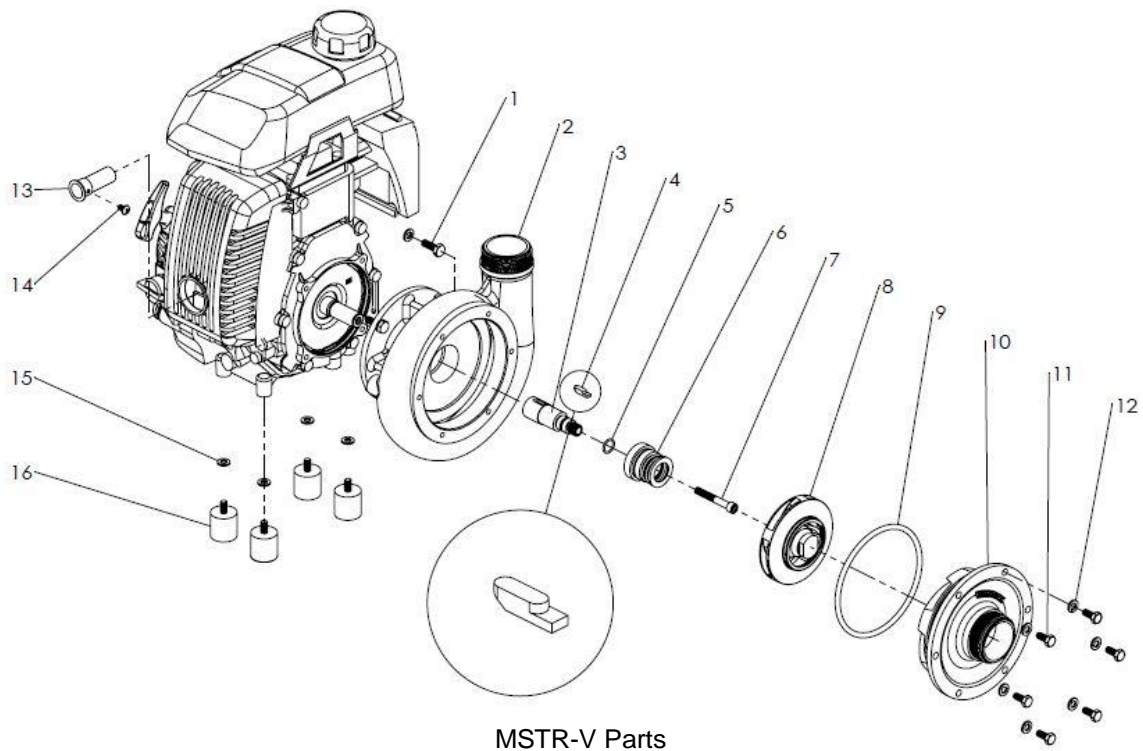

Figure 2: Exploded view of MINI-STRIKER (vehicle).
*The following steps refer to figure 2*
2. Install 3/16 key #4 and shaft #3 onto engine shaft. Refer to Figure 2 for correct orientation of the key.